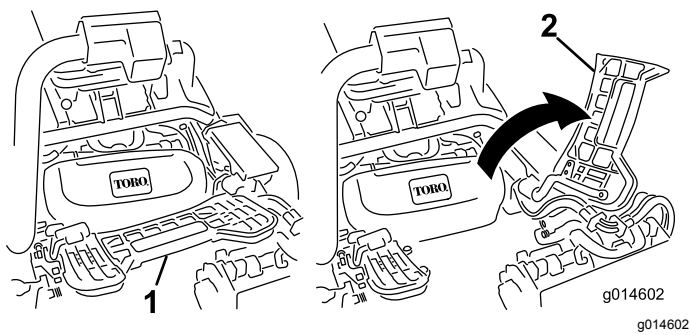

Figure 44
2. Lift up on the foot rest and swing it open, allowing access to the center cutting unit position (Figure 44).